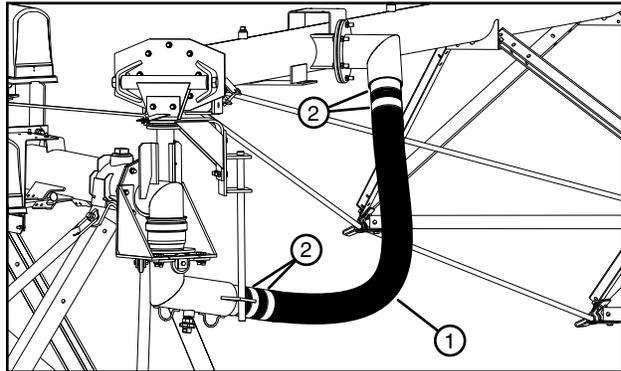

Figure 44-1 1. 4-1/2 in Hose
If the 4-1/2 in hose is sufficiently weather-cracked, checked, or leaking, you need to replace the hose. Follow the steps below to replace the 4-1/2 in hose. See figure 44-1.
1. Loosen the hose clamps. See figure 44-1.
5. Tighten the hose clamps. See figure 44-1.